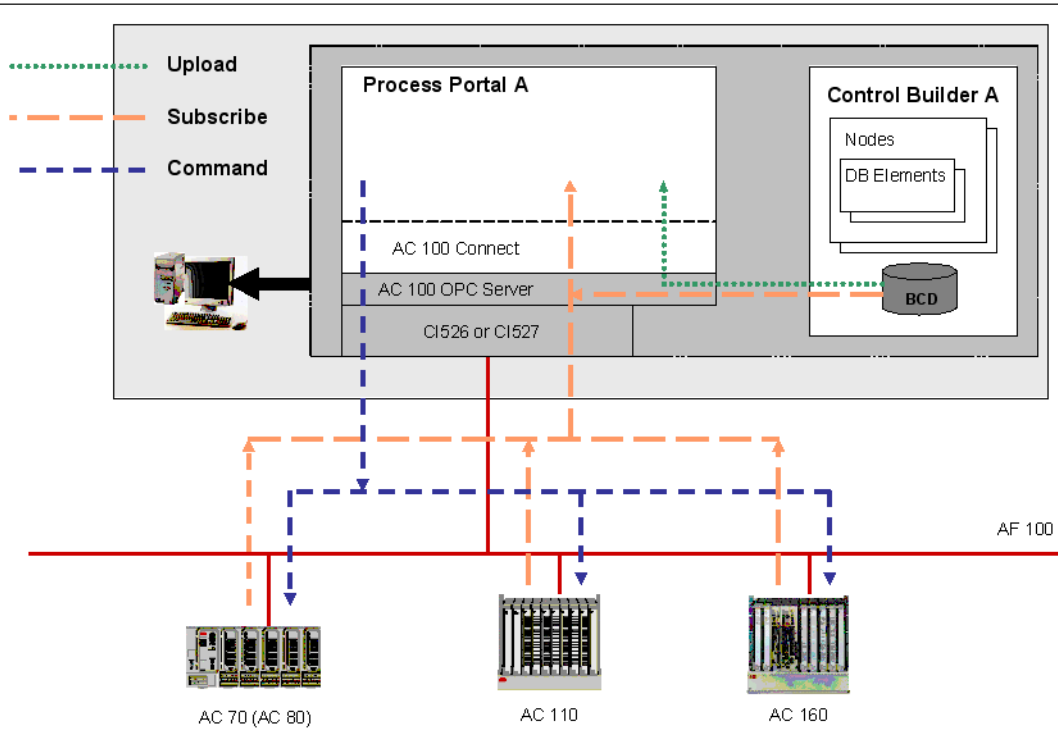

Figure 2. Data Flow of 800xA for AC 100 without event handling
controllers with faceplates and event and alarm lists. The delivered graphical elements can be used to configure process displays. Update of the dynamic data in faceplates and graphical elements and update of the event and alarm lists is done via AC 100 OPC Server. The OPC Server communicates with the AC 100 Series controllers via Advant Fieldbus 100 and reads the Bus Configuration Database. The dataflow corresponds to the dashed lines in Figure 2.
- Upload of static information (see Static Information on page 24) from AC 100 OPC Server, using *item.type*, *item.name* and *item.description* to create or update the corresponding Aspect Object Types in the Control Structure. The dataflow corresponds to the green dotted line in Figure 2.
Figure 2 show the sinks and sources of data for upload, subscription and for commands.